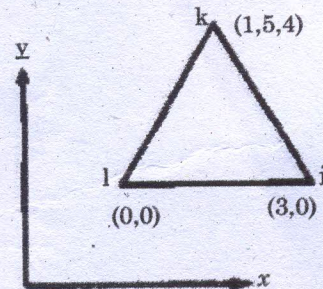

Fig 1
13. (a) (i) Evaluate the element stiffness matrix for the triangular element shown in fig 1 under plane stress condition. Assume the following values. $E = 2 \times 10^5 \text{ N/mm}^2, \nu = 0.3$ and $t = 10 \text{ mm}$.